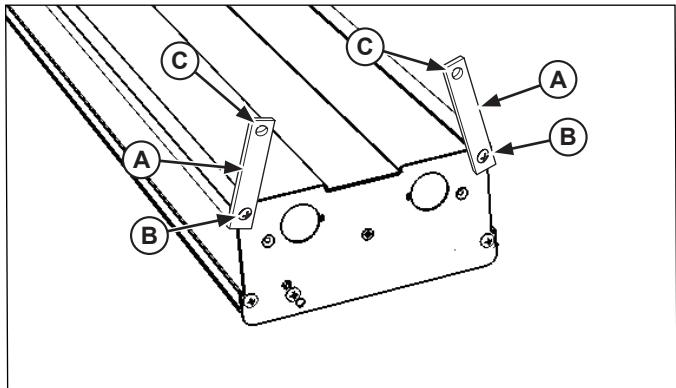

Figure 4. Chain Mount Installation.
- The unit is shipped with mounting tabs (A) located on each end of the unit. For units that are longer than 72", three (3) mounting points consisting of the two ends and the center of the unit must be used. See Figure 4.
- Loosen the screws (B) holding the mounting tabs in place but do not remove. Rotate tabs (A) to an upright position and the attach chain to holes (C). The chain must support each side of each end of the unit evenly.
5. Tighten screws (B) to secure the mounting tabs.